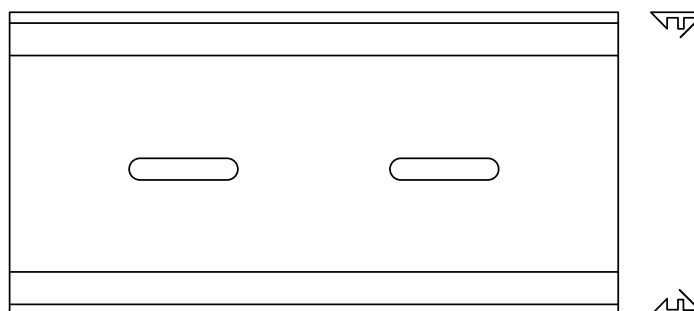

Figure 5: Expansion Board Mounting Track
Step 2: Secure the Expansion Board mounting track (Figure 5) within the Expansion Board Enclosure using sheet-metal screws.